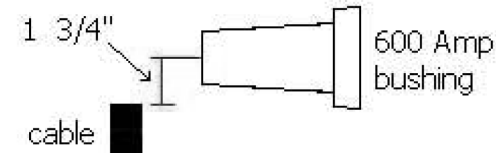

Fig. 3 - Cable Train Dimensions
A. Cut the excess cable off square and 1-3/4" below the centerline of the bushing. (See Figure 3.)